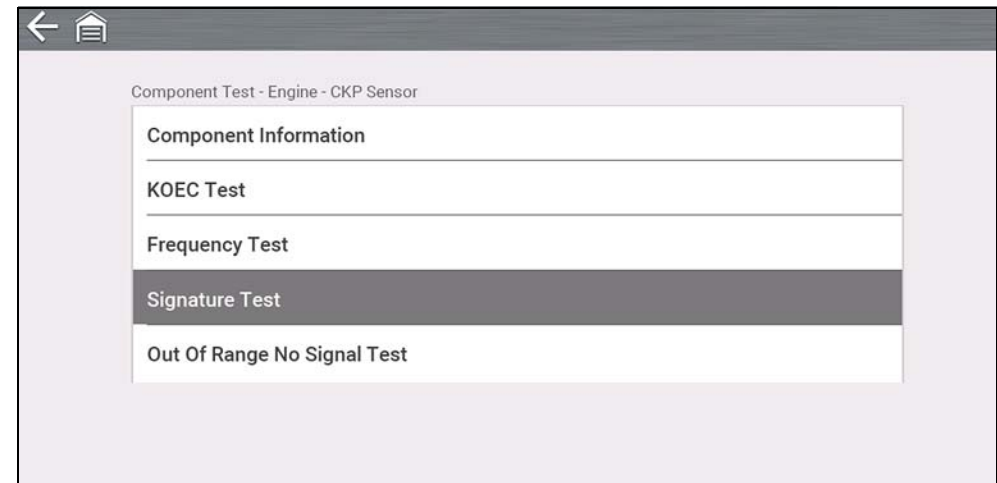

Figure 8-7
2. Select a **Test** from the Component Test menu (*Figure 8-7*).